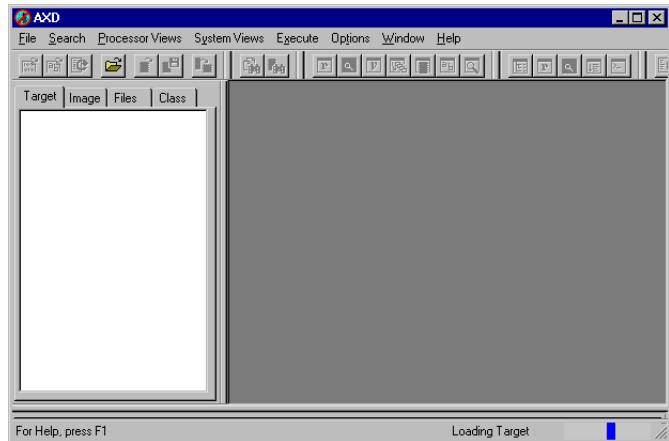

Figure 3-12 Loading Target
4. The debugger attempts to connect with Angel in the target board (see Figure 3-12).